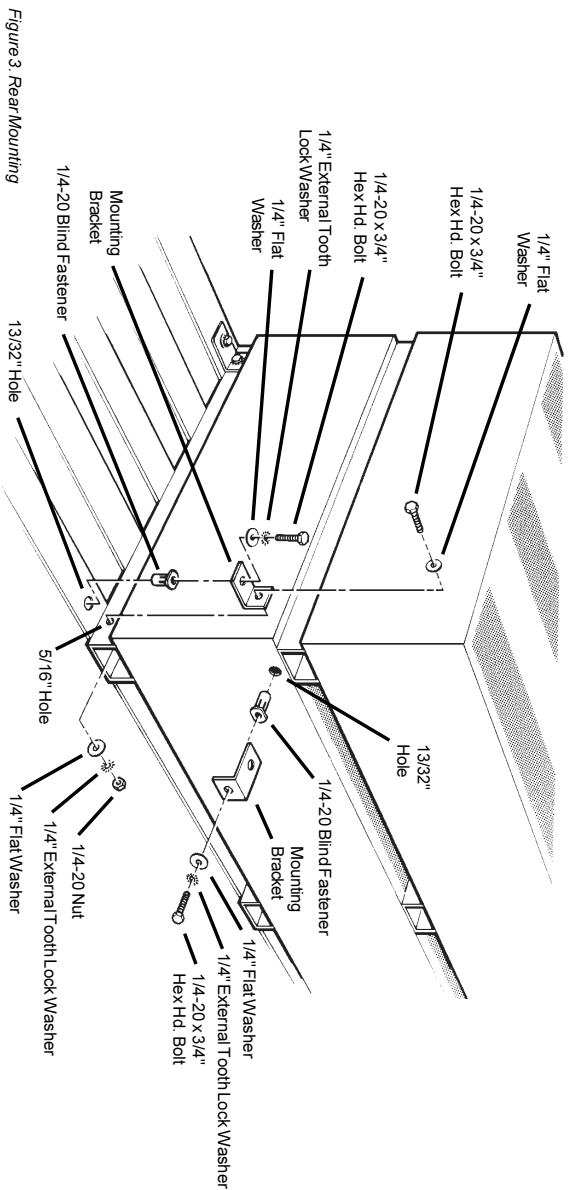

Figure 3. Rear Mounting
2. Go to the rear of the drawer unit (see Figure 3) and place the Mounting Brackets, as shown, with the longest side against the top of the floor rib. Mark through both sets of holes to the floor and the rear skid.
7. Move the rear of the unit (see Figure 3) and place the long end of the Mounting Bracket into the open end of the rear skid. With the short end facing down, mark through the hole to the side of the lower unit.